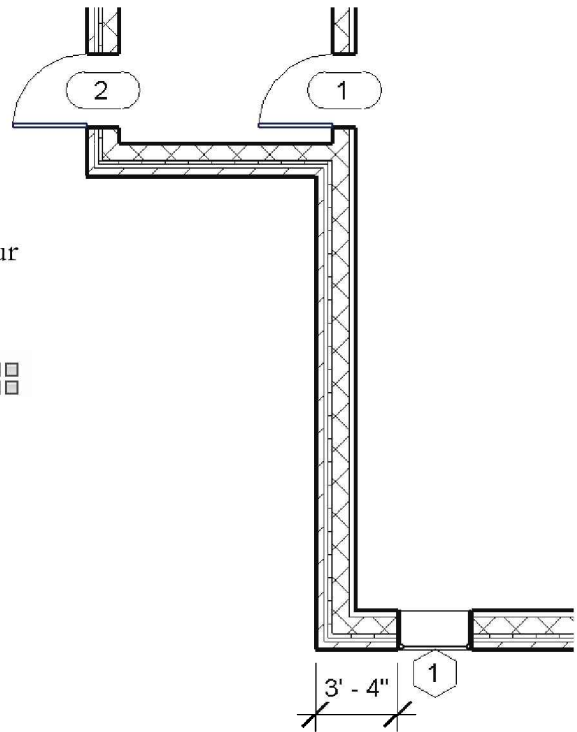

FIGURE 3-5.9 Exterior window
16. Insert the window as shown in **Figure 3-5.9**. The window should be inserted with masonry coursing in mind.